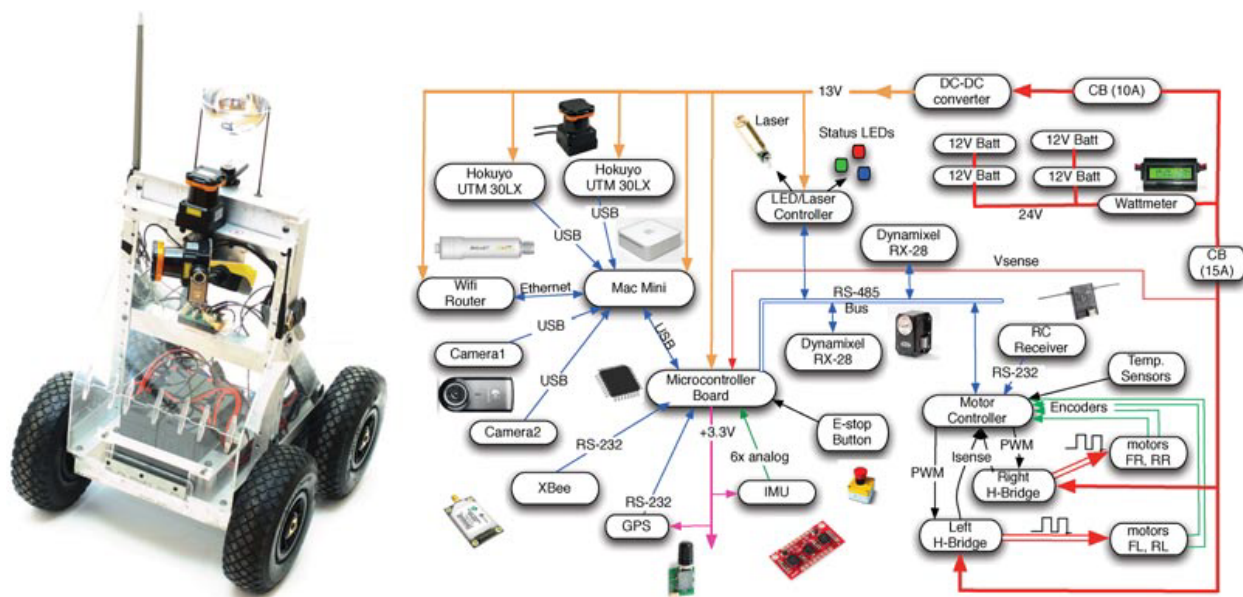

Figure 1: Differential-drive robot, equipped with encoders, IMU, 2-D LIDAR scanner, and RGBD camera.
- **Robot:** A description of the differential-drive robot is provided in docs/RobotConfiguration.pdf. Fig. 1 shows a schematic of our robot. Even though the description file says that the origin of the robot body frame is at the back axle, it is arbitrary and you can choose your own origin. Using the geometric center of the robot body might yield better results because the differential-drive motion model assumes that the robot is rotating around its center.